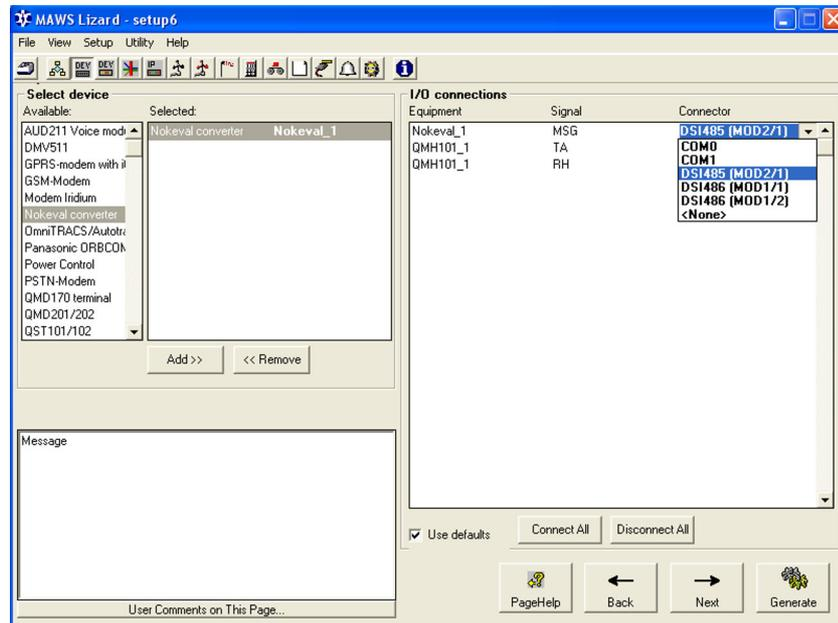

Figure 20 Devices View: Connecting Nokeval 7470 to Serial Port
- Proceed to the **Devices** view as shown in Figure 20 on page 56.